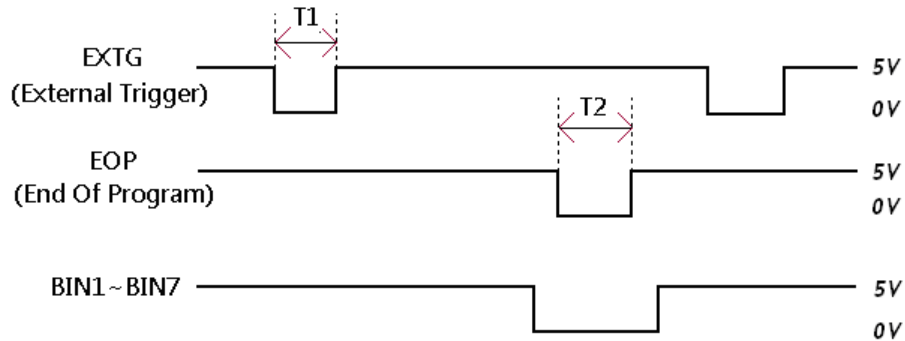

Fig. 2-36
- 1) Input a low pulse on the EXTG pin to start programming as shown by T1 in Fig. 2-36. This operation is the same as pushing the red programming key on the e-WriterPro.
- 2) Then the EOP pin can be polled continuously. If a low pulse is detected, as shown by T2 in Fig. 2-36, this means that the programming is finished.
- 3) During the EOP low pulse as shown by T2 in Fig. 2-36, check the status of BIN1~BIN7 to obtain the programming result. For example, if BIN1 is low during T2, this means Program OK. However if BIN4 is low during T2, this means Program Fail because the device is not blank.